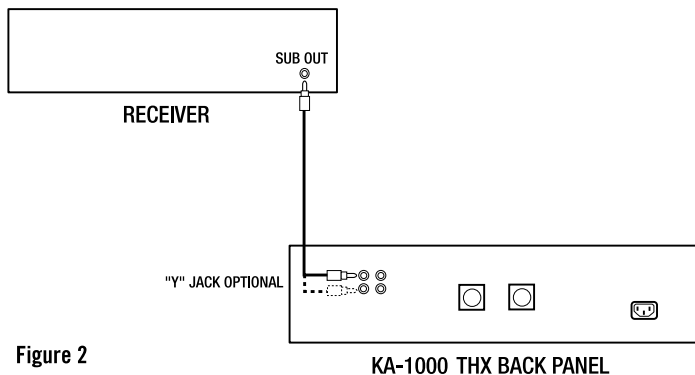

Figure 2
**THX / Digital Surround Receiver or Processor Connection**—Today’s Dolby Digital® and DTS® digital surround receivers and processors, as well as all THX-certified models, have line-level subwoofer outputs and built-in subwoofer crossovers. If your system is built around one of these, it will almost always be best to use the KA-1000 THX with the THX switch in the “On” position. This will bypass the crossover and level controls. Connect the subwoofer output on the receiver or processor to one or both of the KA-1000 THX’s two input jacks (Figure 2). Use a shielded, high quality subwoofer interconnect cable of appropriate length with RCA plugs on each end. Your dealer can help you select a suitable cable. Be sure to go into your receiver or processor’s speaker setup menu and set Subwoofer to “On” or “Yes”, or if it is a THX Ultra2 certified model, select “Ultra2” in the subwoofer menu. Your receiver or processor may have additional bass management abilities beyond simply activating the subwoofer output. Consult your receiver or processor’s owner’s manual or your dealer for more information on the proper bass management settings for your system.